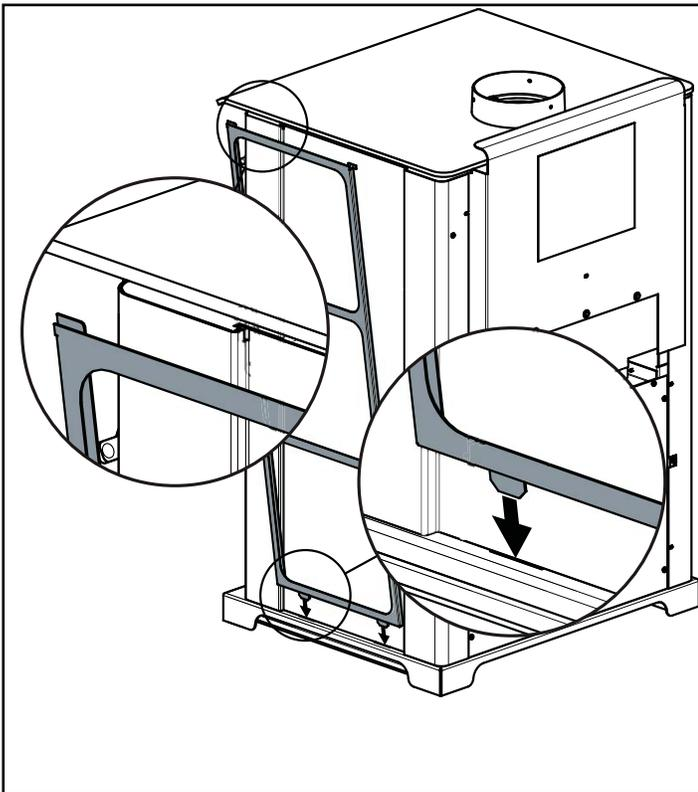

Figure 25.1
1. Remove tile frame from side by lifting up and pulling away from stove. **Figure 25.1**